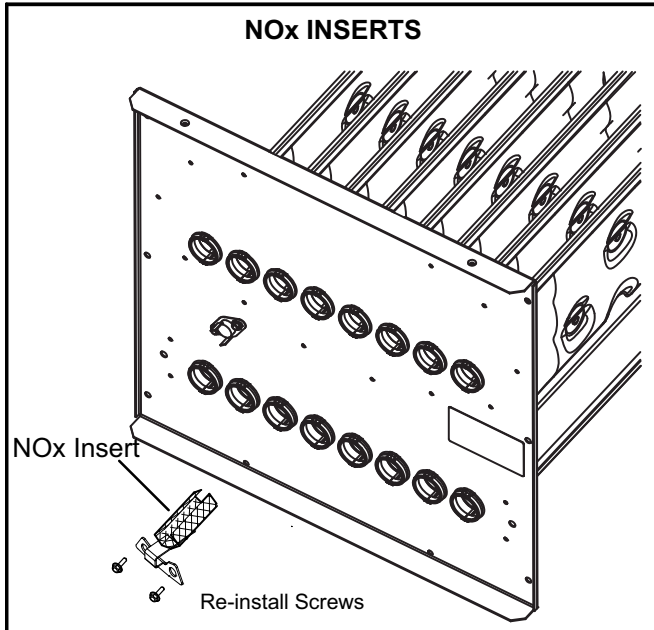
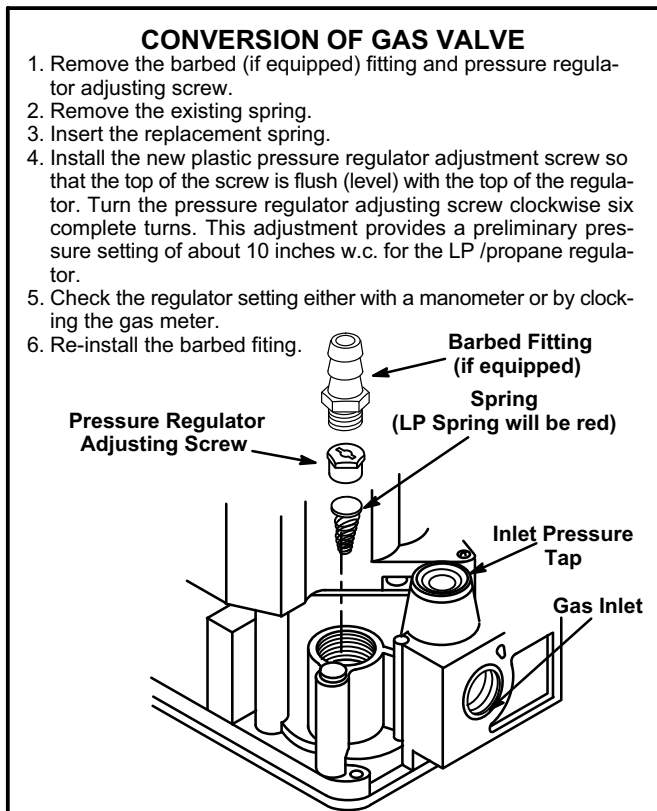

FIGURE 1
FIGURE 6
- 6 - Replace the gas valve regulator spring with the provided regulator spring. See figure 6.
- 7 - **ML180(X), EL180(X) and 80AF1(X) NO_x units being converted from natural to LP /Propane.**
- b - Remove the screws which secure each of the NO_x inserts to the clamshell. **Remove the NO_x insert and reinstall the screws. See figure 1.**